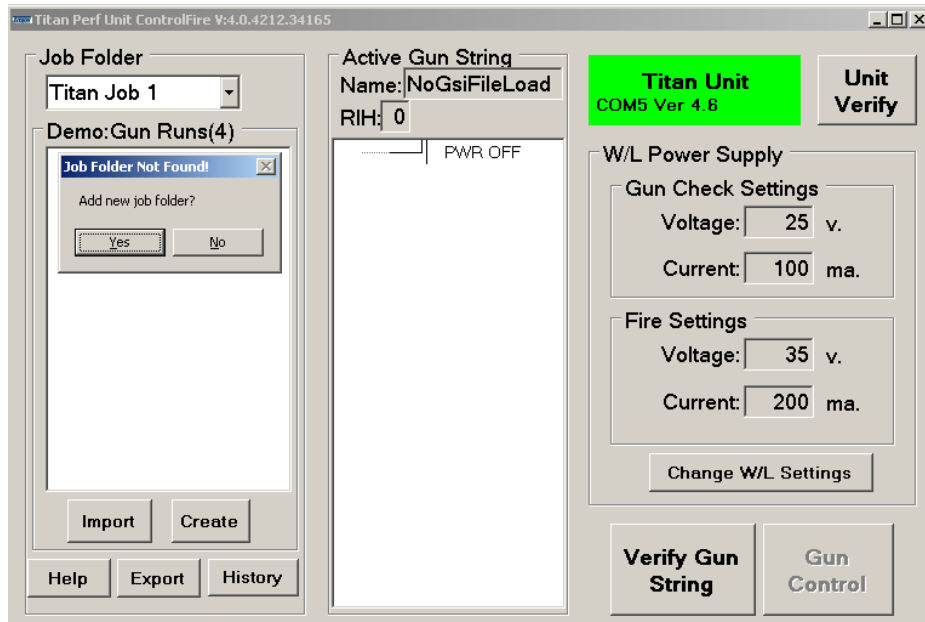
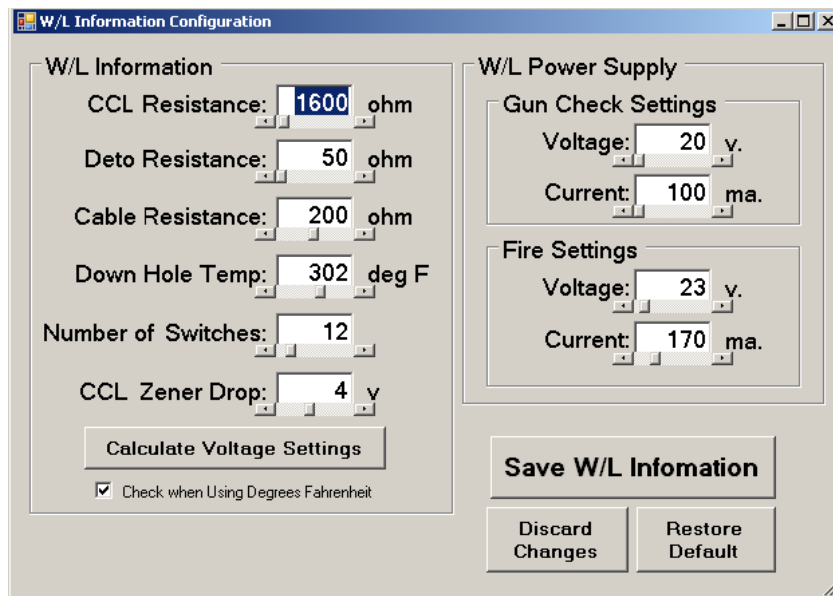

Figure 16
Figure 17
A new Job Folder is normally created for a client on every new job. Refer to Figure 16 for the next steps:
From the setup screen in Figure 16, select the **Change W/L Settings**. This brings up the W/L Information screen shown in Figure 17.
1. Select Titan Job 1 folder (Refer to Figure 16)